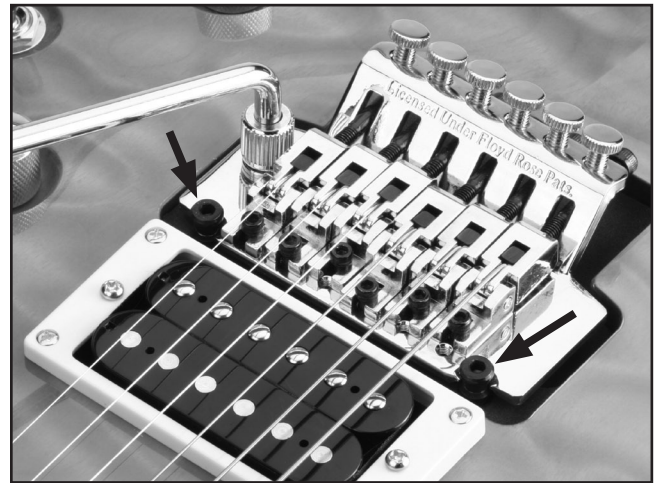

Figure 40. Bridge height adjustment.
2. De-tension the strings and adjust the bridge height by turning the height adjustment screws pointed out in **Figure 40**.